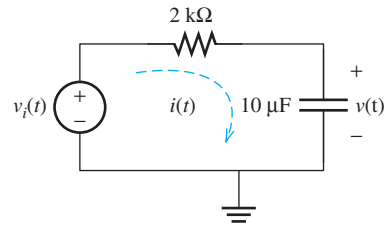

FIGURE P5.56 Circuit for Problem 5.56.
5.56 (H)* Find $i(t)$ and $v(t)$ in the circuit shown in Figure P5.56 assuming the input voltage